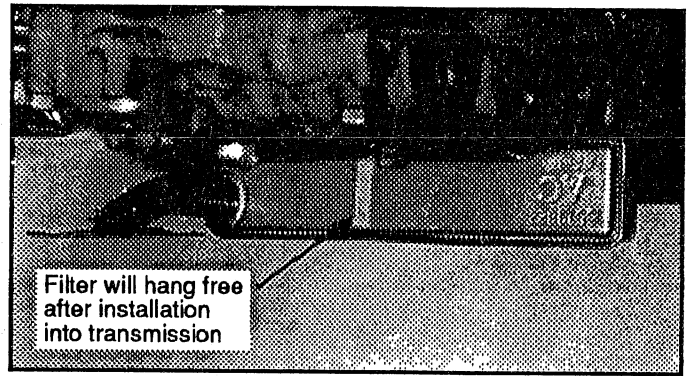

Figure 5
STEP 6. Install oil filter into case: '65-'67: Push oil filter/extension tube into the hole until the O-rings on the extension tube stop against the case. The filter will hang in mid-air. (See Fig. 5)